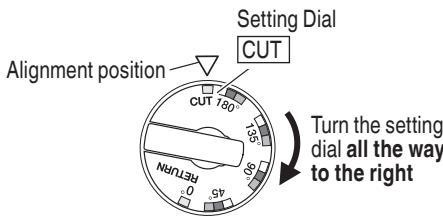

Fig. 34
- (1) Position the setting dial in the "CUT" position (Fig. 34)